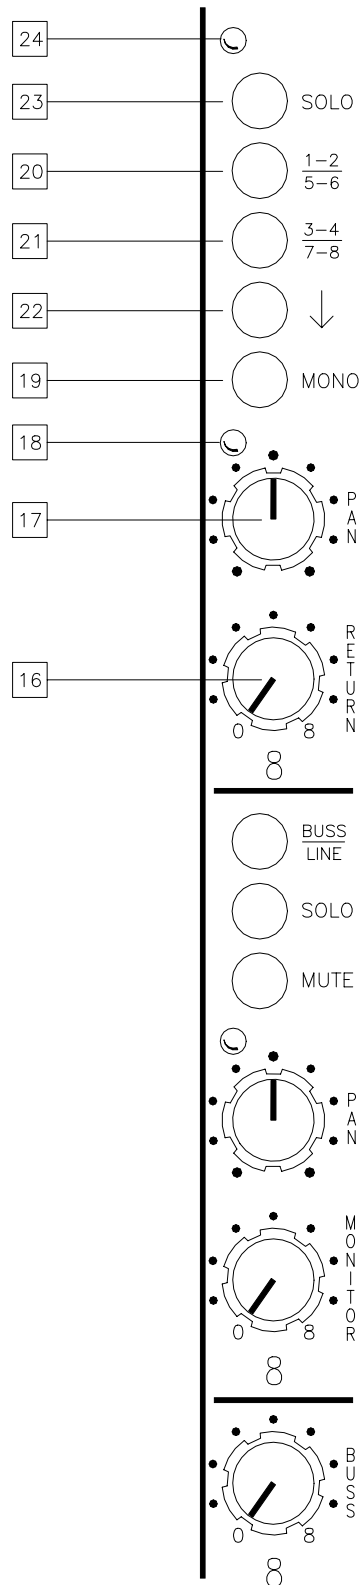

Figure 3. Stereo Effects Return Channel
*Refer to Figure 3 for location of items 16 thru 24*